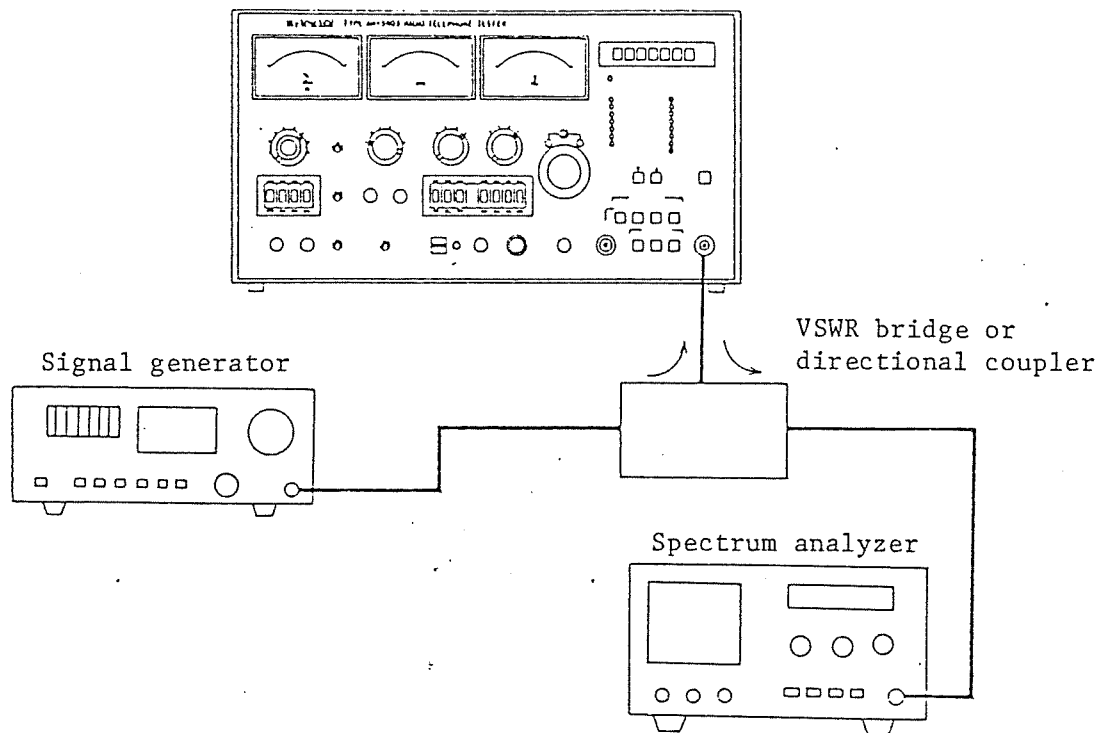

Fig. 3-2 RF input-output impedance test
- (1) Connect the instruments as shown in Fig. 3-2.
- (2) Arbitrarily set the controls of this apparatus.
- (3) By using the VSWR bridge (or directional coupler), read the level shown by the spectrum analyzer while leaving the VSWR bridge disconnected from this apparatus. Next, connect the VSWR bridge to the [RF INPUT/OUTPUT 50  $\Omega$  MAX. 25 W] of this apparatus and read the level shown by the spectrum analyzer.